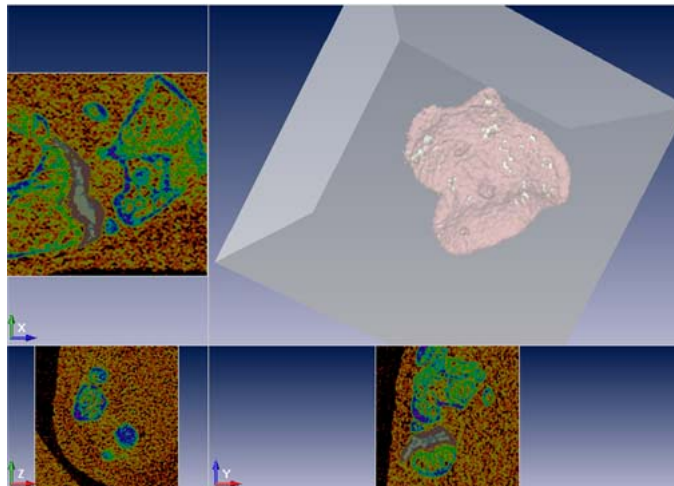

Figure 48. Adjusted ROI View
- 1 Adjust the view of the 3D image (see page 40) to best view the ROI. See Figure 48.